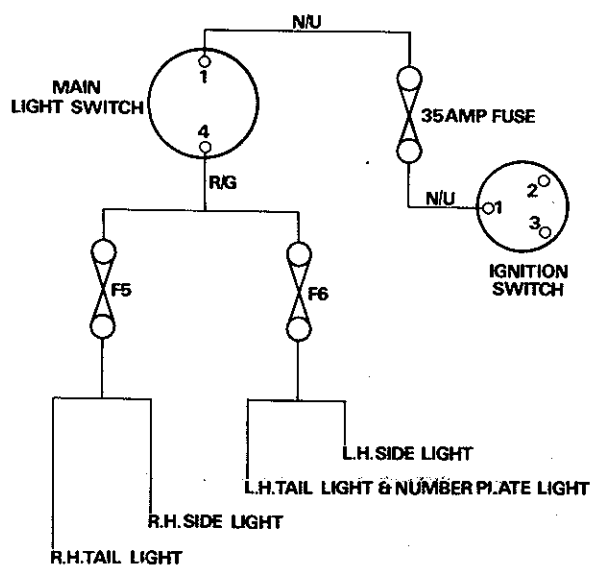

Fig. 6
21. The side and tail lights use position 1 of the ignition switch and positions 1 and 4 of the main light switch, with a fuse located between them. From the main light switch the circuit is made complete by passing through fuse 5 to the right-hand tail light and the right-hand side light, and through fuse 6 to the left-hand tail light, the number plate light and the left-hand side light. The circuit is shown in fig. 6.